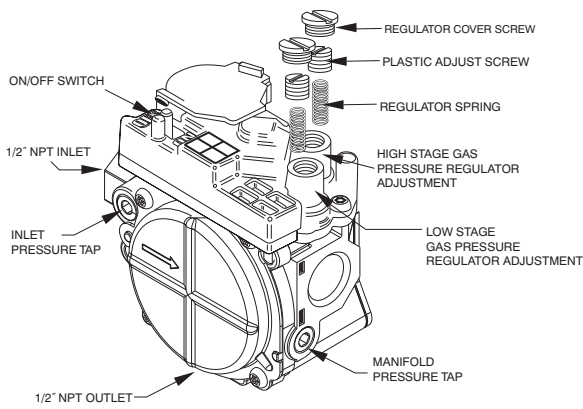

Fig. 51 - Redundant Automatic Gas Valve
- b. Remove regulator seal caps that conceal adjustment screws for low- and high-heat gas valve regulators. (See Fig 51.)